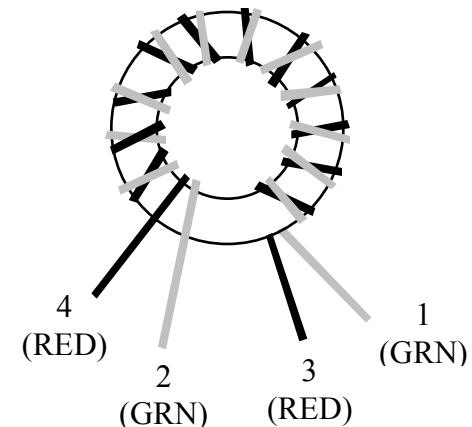

Figure 21
- Separate T4's leads as shown in Figure 21. The numbers on the leads correspond to numbered pads on T4's PC board outline.
Install T4 vertically on the PC board as indicated by its outline near the small notch (back edge). Insert the red and green leads into their numbered holes as shown in Figure 21.